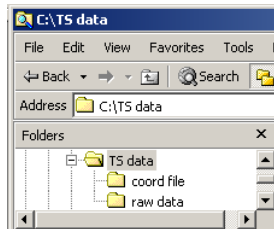

Figure 4-14. Selected Folder for Opening in Topcon Link
- For example: If *Recurse folders* is enabled after the folder “TS data” (Figure 4-14) was dragged-and-dropped, Topcon Link opens all the files located in the folders “coord file” and “raw data”.